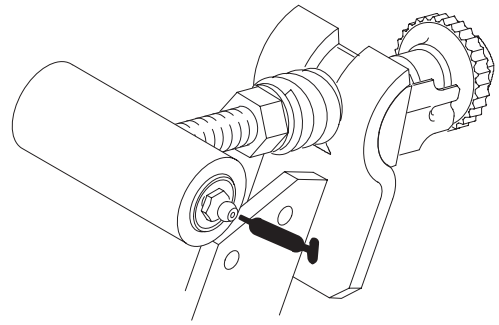
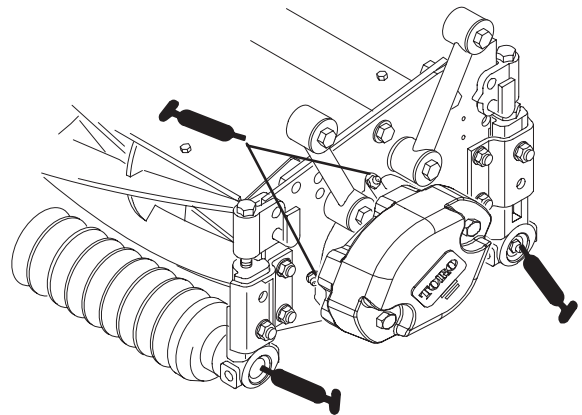

Figure 15
Figure 16
The grease fitting locations and quantities are: Bedknife adjuster (2), every 50 hours (Fig. 15); Reel bearings (2) and front and rear rollers, every 8 hours (2 ea.) (Fig. 16).